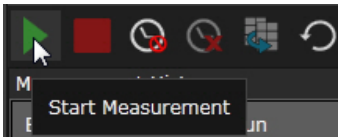

Figure 29 Start measurement
- 19 Click on the **Start Measurement** button to start the measurement as shown in Figure 29 on page -54.